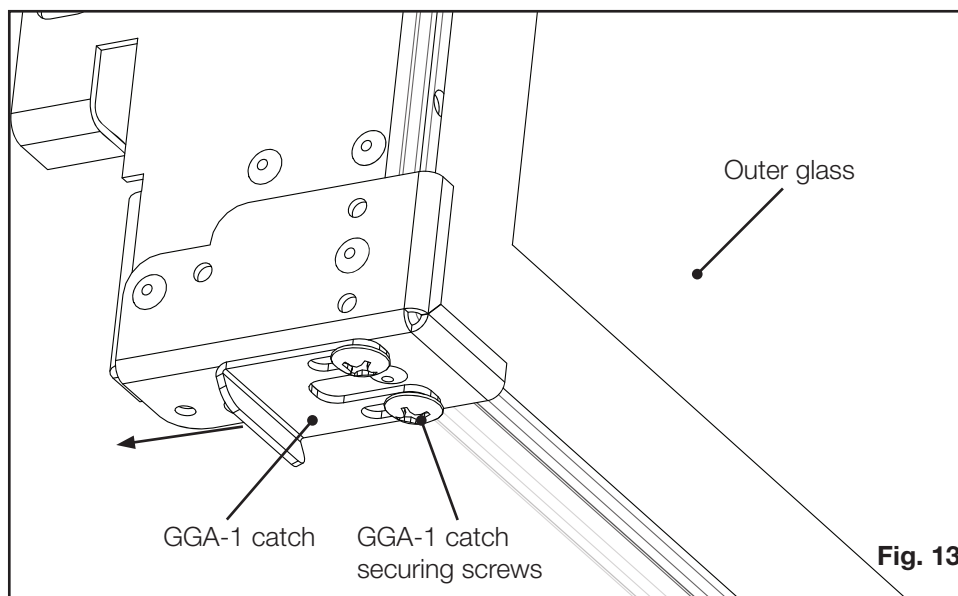

Fig. 13
- The GGA-1 catches should be installed toward the appliance. It may be necessary to loosen the GGA-1 catch securing screws on the bottom of both sides of the GGA-1 and slide them all the way towards the back of the GGA-1. Retighten securing screws **(Fig. 13)**.